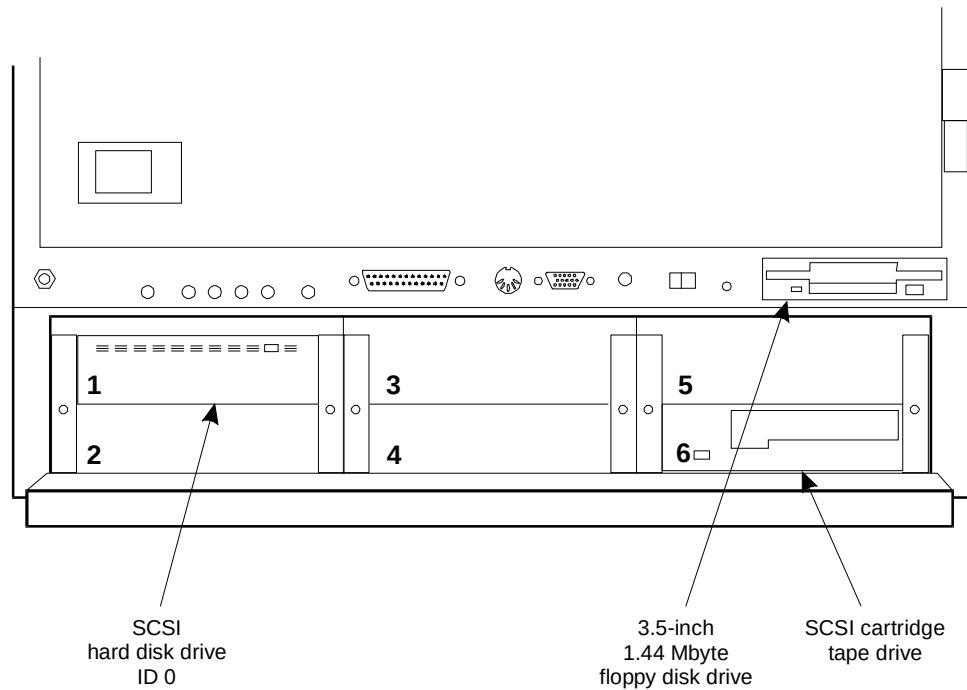

Figure 3-1. Front View of the MAP/100C
1. Locate the tape drive on the front of the MAP/100C (Figure 3-1).
1. Locate the diskette drive on the front of the MAP/100C (Figure 3-1).